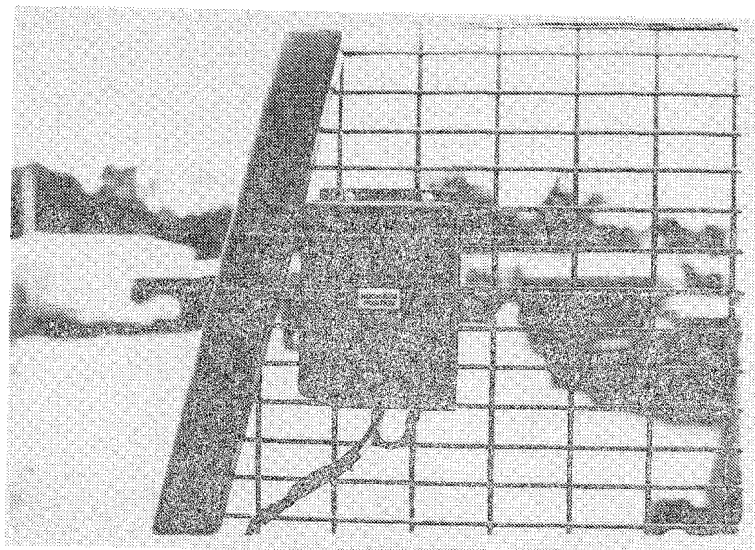

FIG 2 - HOOK ARM POSITION INDICATOR BOX
- c. Mount the Hook Arm Position Indicator Box on the wire mesh at the front of the operator's platform and complete wiring of both assemblies (see Figure 2). The Indicator Box should only receive power when the operator station illumination light switch is in the ON position.